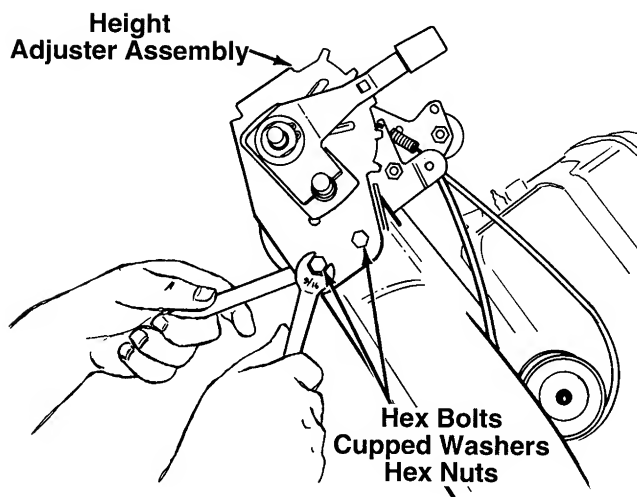

FIGURE 22.
9. Using two 9/16" wrenches, remove the two hex bolts, cupped washers and hex nuts which secure the height adjuster assembly to the deck. See figure 22. Remove height adjuster assembly from unit.